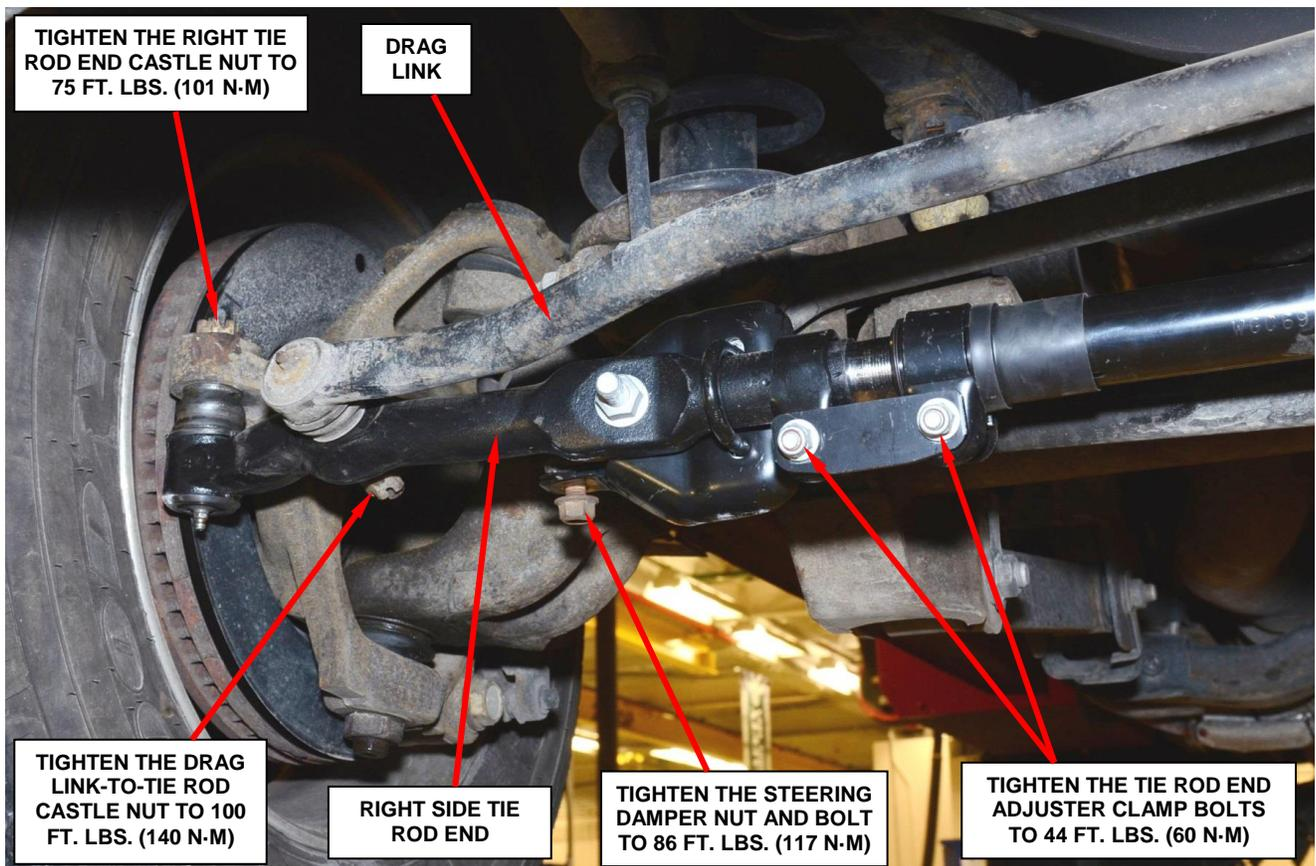

Figure 3 – New Steering Linkage Fastener Torque Specifications
14. Place the steering damper end into the steering linkage bracket and install the retaining nut and bolt hand tight (Figure 3).
17. Tighten the right tie rod end castle nut to 75 ft. lbs. (101 N·m) (Figure 3).
19. Tighten the drag link-to-tie rod castle nut to 100 ft. lbs. (140 N·m) (Figure 3).
21. Tighten the steering damper nut and bolt to 86 ft. lbs. (117 N·m) (Figure 3).